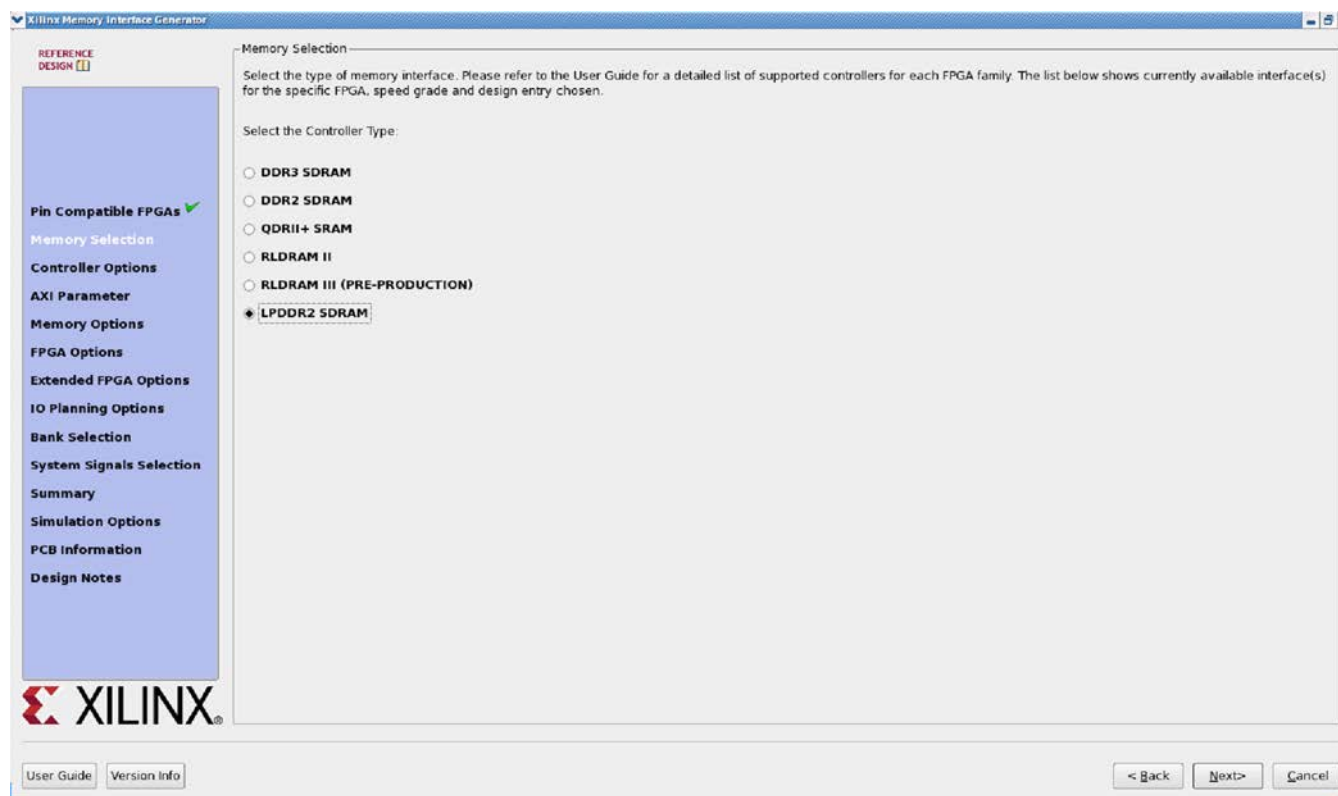

Figure 4-16: Memory Type and Controller Selection
2. Click **Next** to display the **Controller Options** page (Figure 4-16).